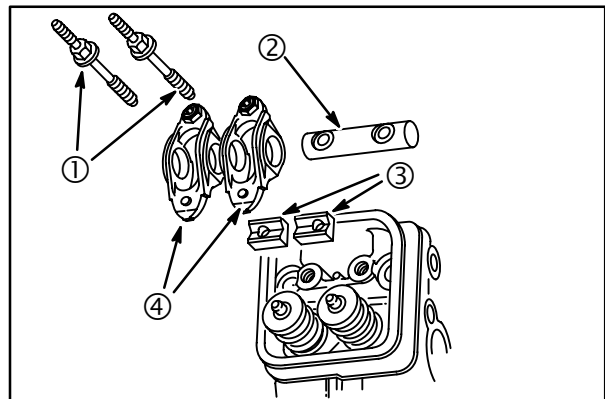

Fig. 12
NOTE: Rocker shaft support (3) holes are offset. Install with holes facing ends of rocker shaft, **Fig. 12**.
1. Lubricate rocker arms (4) and shaft (2) with clean engine oil.
2. Assemble rocker arms, shaft, supports and studs (1) and install on cylinder head, **Fig. 12**.